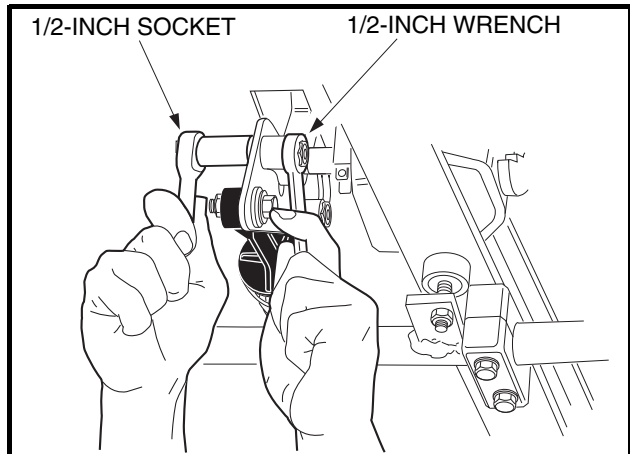
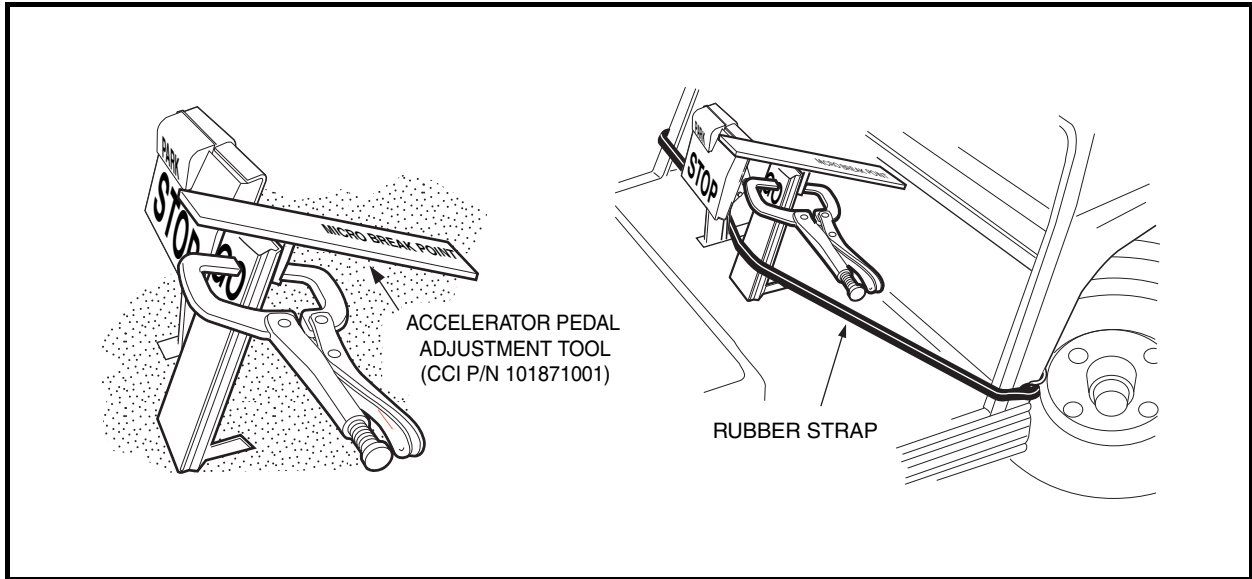

Figure 5-28 Accelerator Pedal Height Adjustment
Figure 5-29 Accelerator Pedal Height Adjustment
- 4.1. Loosen the nut and bolt (Figure 5-28, Page 5-18) securing the accelerator pedal to the pivot plate. Clamp the accelerator pedal adjustment tool (CC P/N 101871001) to the accelerator pedal, with the end marked 'accelerator pedal height' closest to the floorboard. Press the accelerator pedal until the end of the tool rests against the floorboard; pedal height should be 5-5/8 inches (14.3 cm). Use a rubber strap to hold pedal in position against the floorboard and then tighten nut to 26 ft-lb (35.3 N·m) (Figure 5-29, Page 5-19).